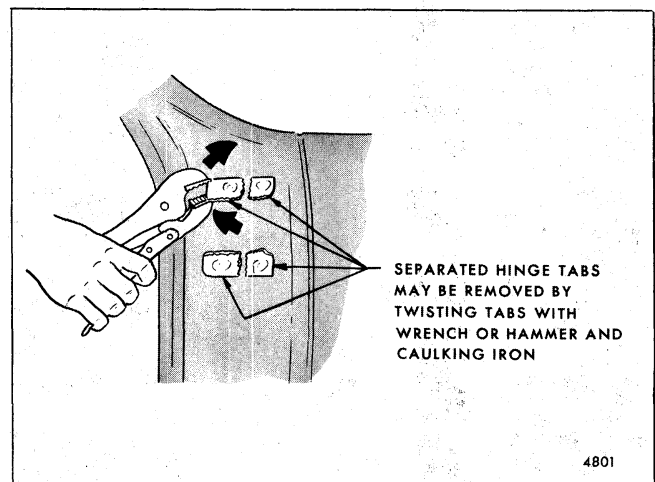

Fig. 5-88-Body Side Door Hinge Strap Removal - "H" Styles
5. Mig welds holding separated hinge tabs can be broken by twisting or rotating the individual tabs as shown in Figure 5-88, using vise grip type pliers, pipe wrench or hammer and caulking iron (or other suitable tools).